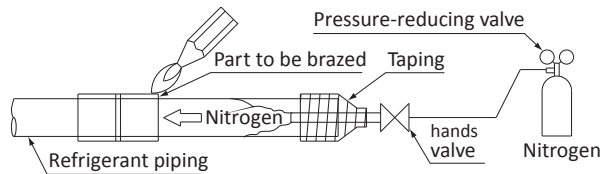

Figure 14
- When brazing the refrigerant piping, perform nitrogen replacement first or perform the brazing while feeding nitrogen into the refrigerant piping. (Refer to Figure 14.)